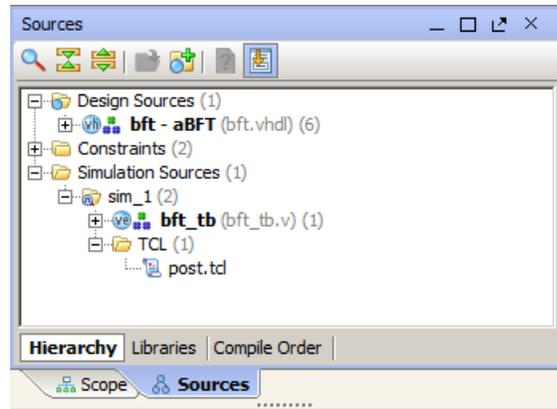

Figure 3-15: Using the post.tcl File in a Design
4. Add the `post.tcl` file to your Vivado Design Suite project as a simulation source. The `post.tcl` file displays in the Simulation Sources folder, as shown in Figure 3-15.